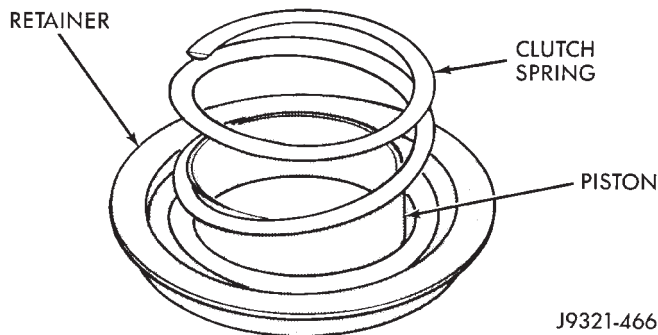

Fig. 162 Clutch Piston Spring Installation
- (5) Position spring in clutch piston (Fig. 162).